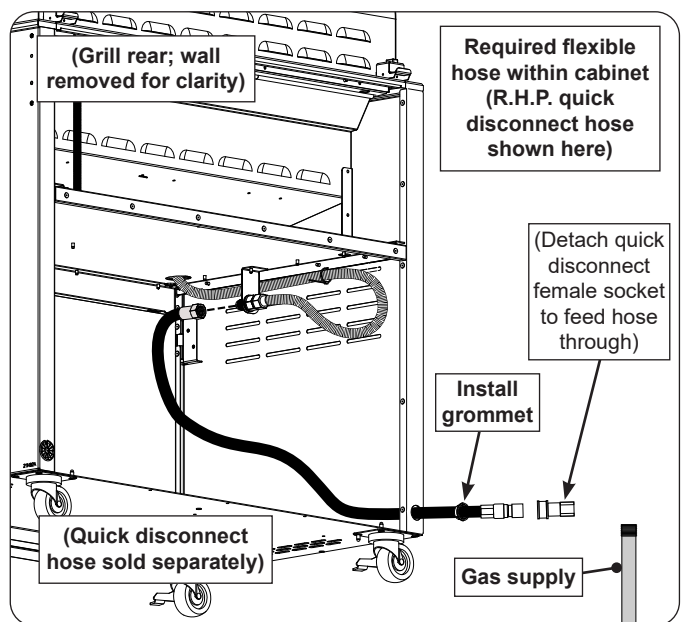

Fig. 12-2 Flexible hose assembly detail
2. Install a quick disconnect hose or similar (purchased separately) to the adapter inside the cabinet. (An R.H.P. quick disconnect hose is recommended - see third bullet above.) Use a pipe joint compound resistant to all gasses on all NPT pipe fittings except flare fittings. Reference Fig. 12-2. Then proceed to step 3.
3. Install the included open-hole grommet to the hole in the rear bottom right of the cabinet, then route the quick disconnect hose (or similar) out of the hole, and to the gas supply (see Fig. 12-2).